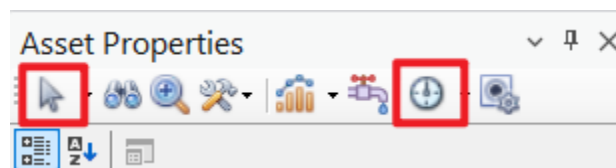

Figure 13: The AquaTwin Selection and the Reassign Meters buttons.
1. Select the pipe you want the meter to be directed to using an AquaTwin Selection at the top of the *Digital Twin* tab in the *Asset Properties* (**Figure 13**).
2. Click the *Reassign Meters* button (**Figure 13**).